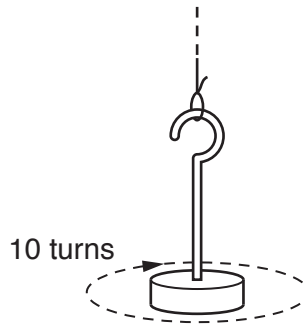

Fig. 1.2
- (b) (i) Twist the mass through **ten** complete turns as shown in Fig. 1.2.